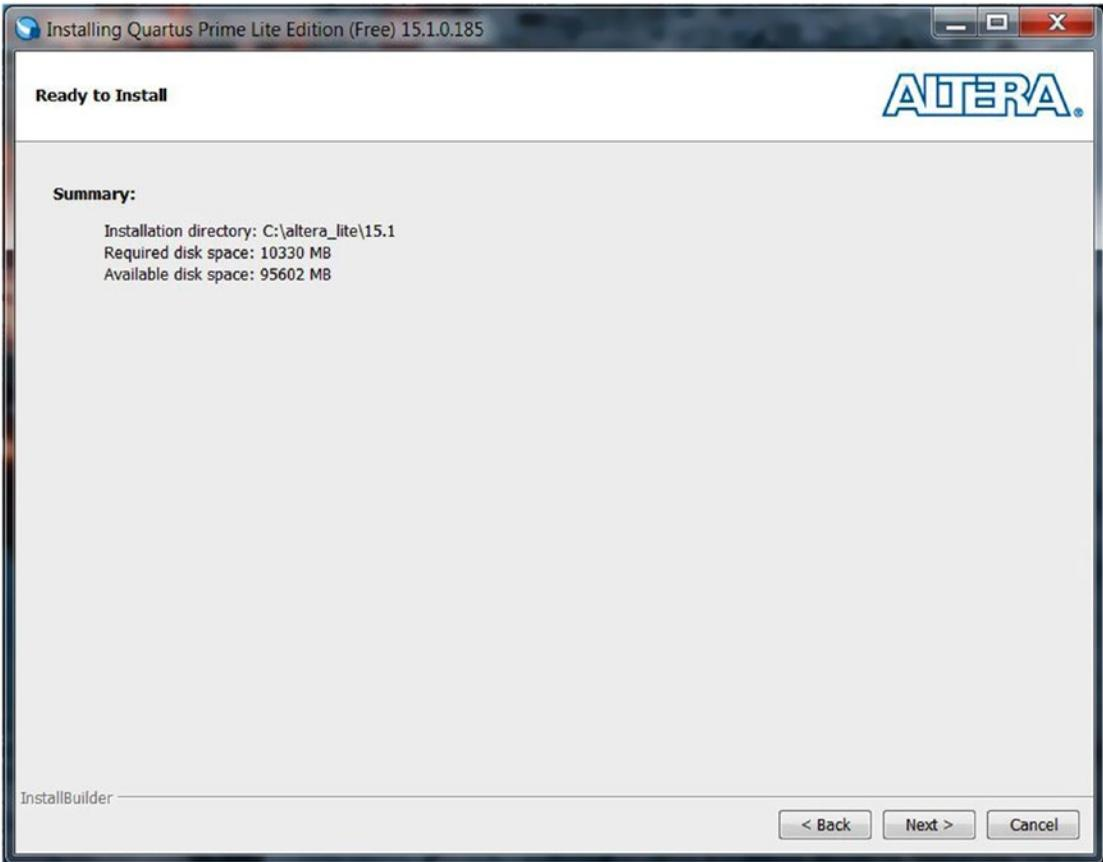

Figure 3-14. It needs your approval to install the software (Ready to Install)
5. This window shows how much space is needed to install the tools and asks for your approval to install (Figure 3-14) by clicking *Next*.